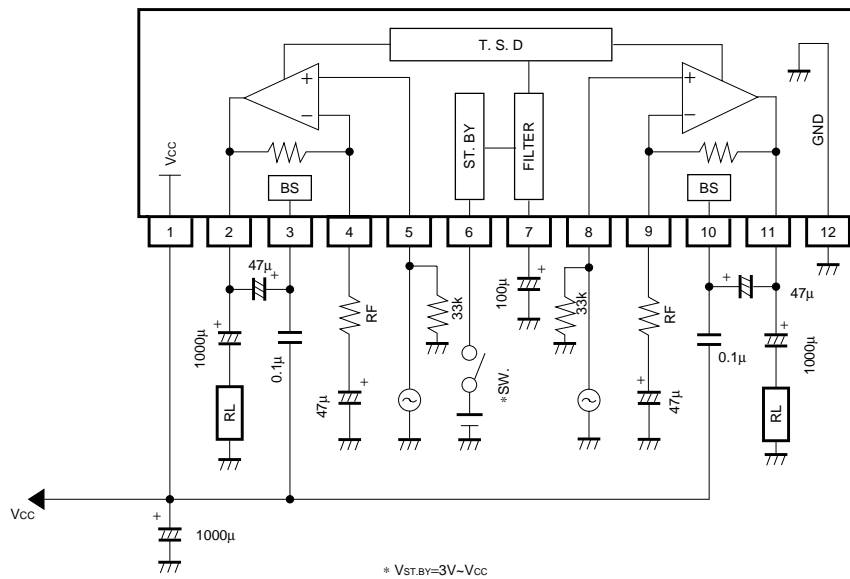

Fig.1
(10) Standard values for the DC voltages on each pin ( $V_{CC}=12V$ ,  $T_a=25^\circ C$ , measurement circuit : Fig.1)